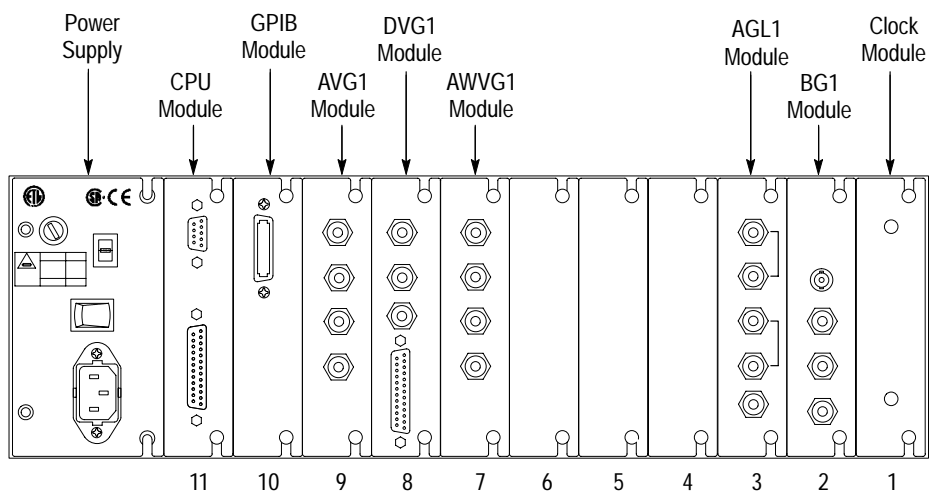

Figure D-1: TG 2000 Platform mainframe rear panel, showing slot numbering
3. Select the slot you will use to install the module. Table D-1 lists the slot restrictions. Figure D-1 shows a sample configuration with slot numbers.